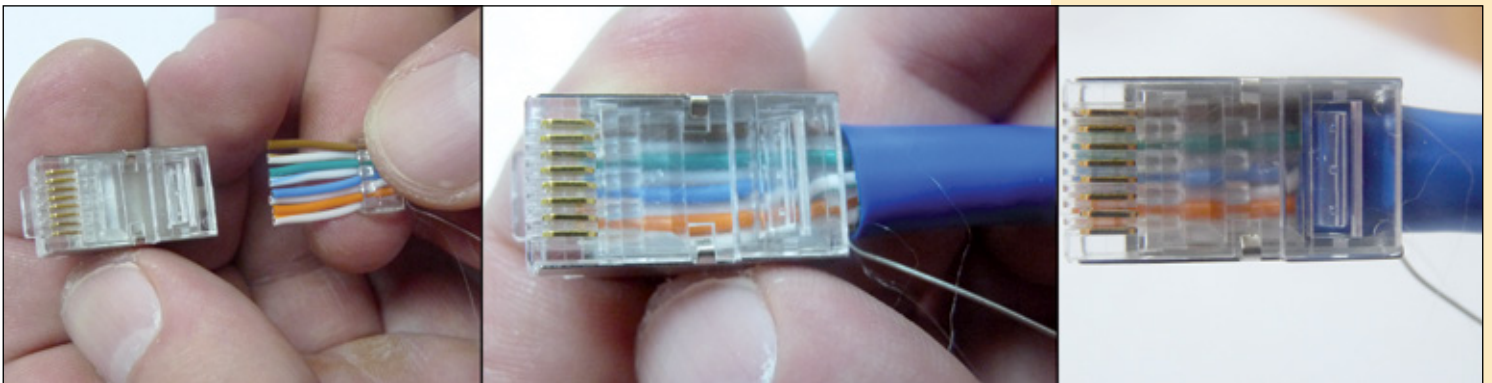

Figure 19
- 14 Insert the cable in the **Main Body** as shown in **Figure 19**.